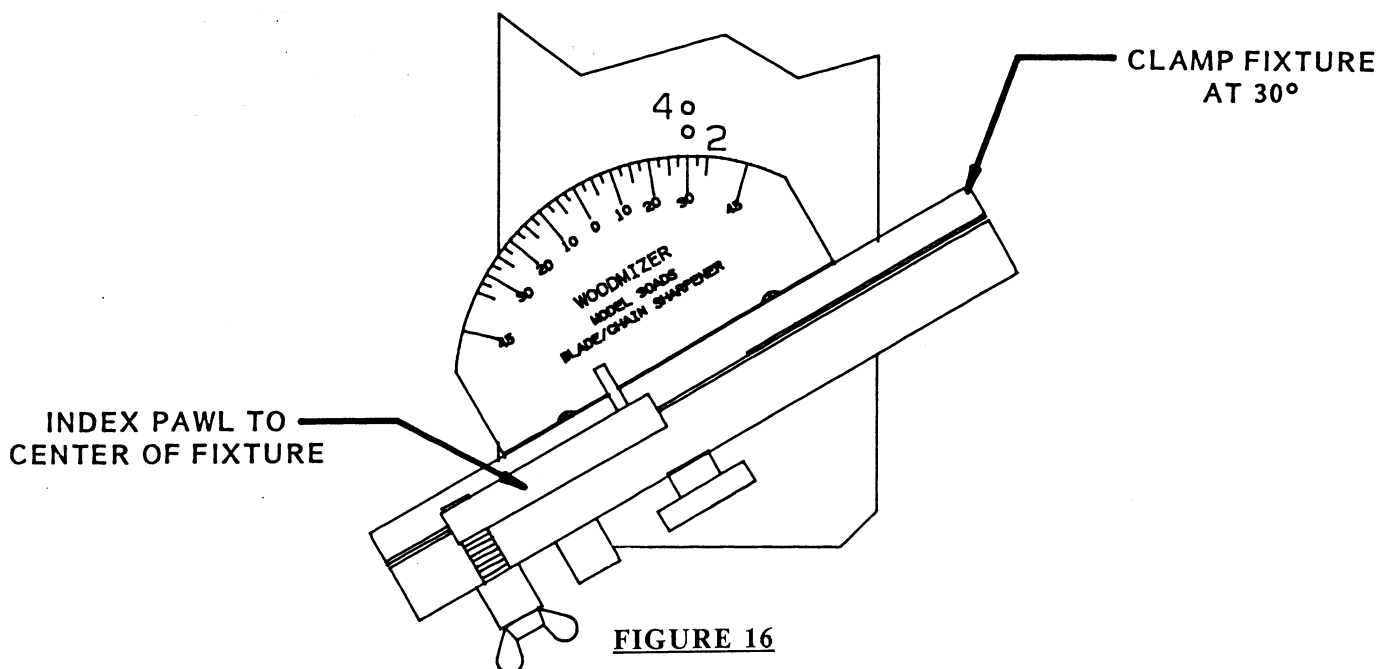

FIGURE 16
10. Set TOP PLATE ANGLE by setting the protractor of the clamping plate assembly to the desired angle. (See Figure 16.) (We will use 30° for an example.) The clamping plate assembly will be moved from front to back as the wheel wears, to keep the blade in proper placement with the wheel.